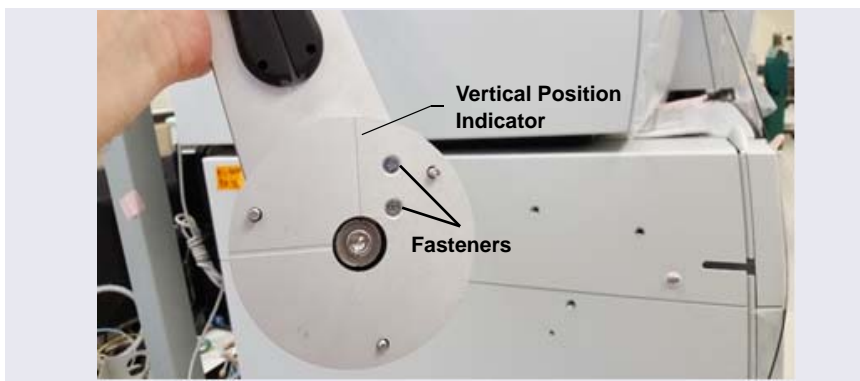

Figure 3-28. Position Indicator on the Tablet Mounting Arm/Holder
- a. Note the two lines molded into the base of the tablet mounting arm, on the inside of the arm (the side of the arm which is installed against the DC). When installing the mounting arm, make sure the line to the left of the two fasteners (see Figure 3-28) is in the vertical position.